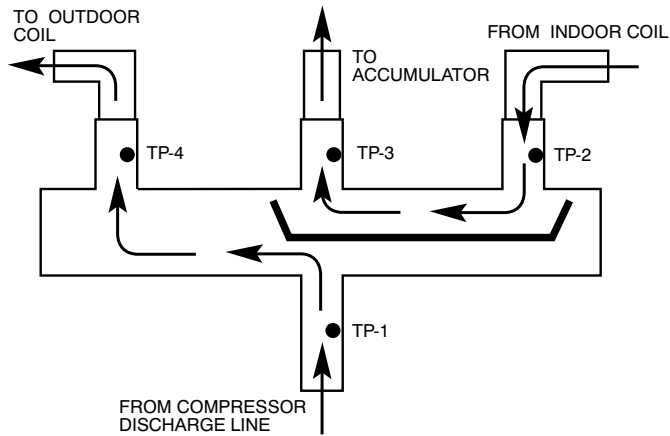
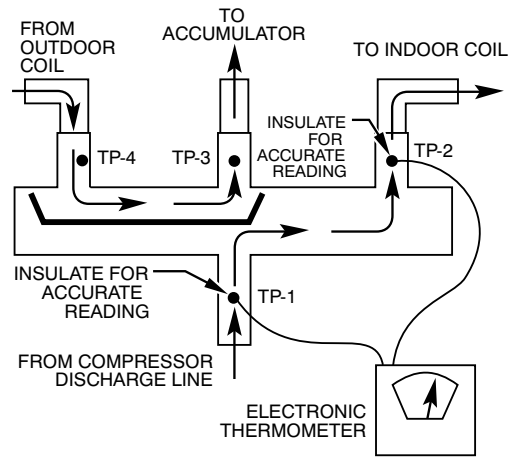

Fig. 20 – Reversing Valve (Cooling Mode or Defrost Mode, Solenoid Energized) ^{A10J89}
Fig. 21 – Reversing Valve (Heating Mode, Solenoid De-Energized) ^{A10I88}
Using a remote measuring device, check inlet and outlet line temperatures. DO NOT touch lines. If reversing valve is operating normally, inlet and outlet temperatures on appropriate lines should be close to each other. Any difference would be due to heat loss or gain across valve body. Temperatures are best checked with a remote reading electronic-type thermometer with multiple probes. Route thermocouple leads to inside of coil area through service valve mounting plate area underneath coil. Fig. 20 and Fig. 21 show test points (TP) on reversing valve for recording temperatures. Insulate points for more accurate reading.